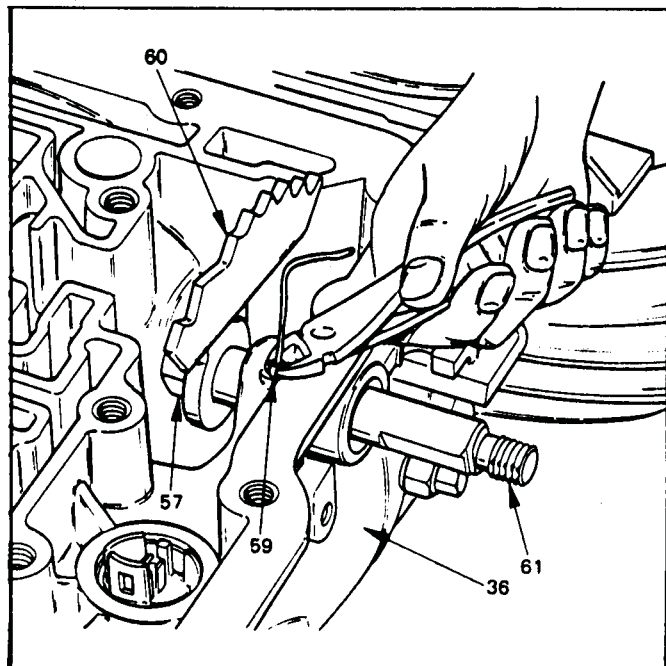

Figure 51
24. Be aware of the pin height, remove the roll pin with diagonal pliers as shown in Figure 51.